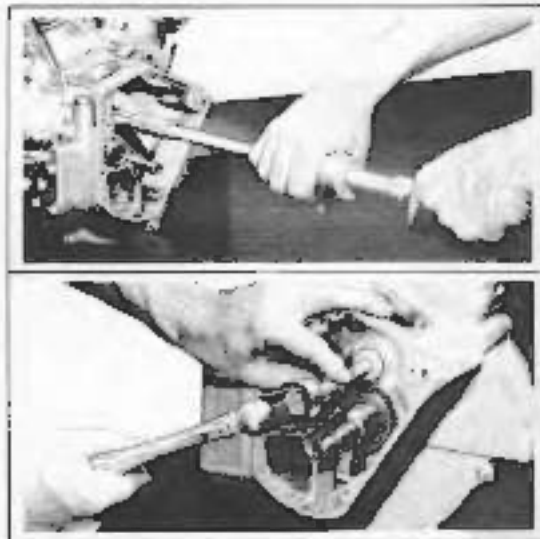

Figure 3-34. Removing and Installing Cam Gear Needle Bearing
2. Inspect oil screen (4) carefully to make sure mesh is open. Holding screen to light is not an absolute check. It is possible for oil screen to be plugged or partially plugged with dry lint like fibers and still permit light to pass. Replace plugged or partially plugged screen.
4. Inspect cam gear oil seal (35) in cover to see that lip is in good condition.
6. Inspect needle bearing (36) for wear, broken or gouged bearings. If end of camshaft shows any appreciable wear (.003 in. or more), needle bearing is probably worn to a point where replacement of bearing and camshaft are advisable.
7. Needle bearing can be removed and installed in crankcase without disassembling crankcase with Puller Tool, Part No. 96760-69 as shown in Figure 3-34. Press needle roller bearing into crankcase with Tool, Part No. 97272-60 as shown in Figure 3-34. Press from heavier end having the manufacturer's name only. Pressing from opposite end will crush roller race and bind rollers. Pinion shaft main roller bearing may be replaced only when crankcase is disassembled (see "Disassembling Crankcase.")